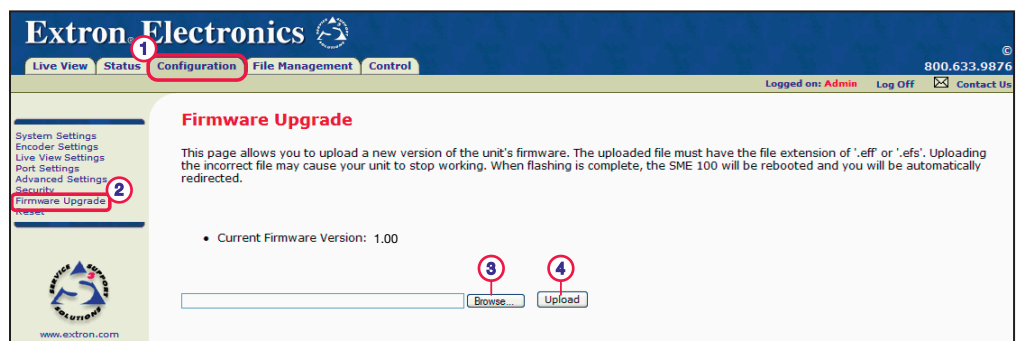

Figure 114. Configuration Page – Firmware Upgrade
1. Click the **Configuration** tab. The Configuration page appears (see figure 114).